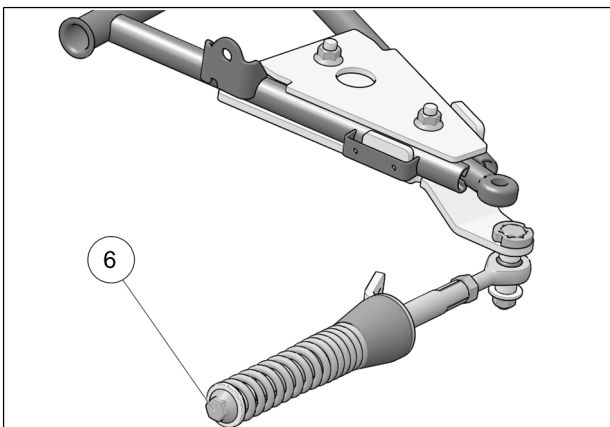

Fig. 20
- Verify that spring assembly bolt (6) is tightened to the recommended torque specification: 75 N•m [55 lb•ft]. Refer to Fig. 20